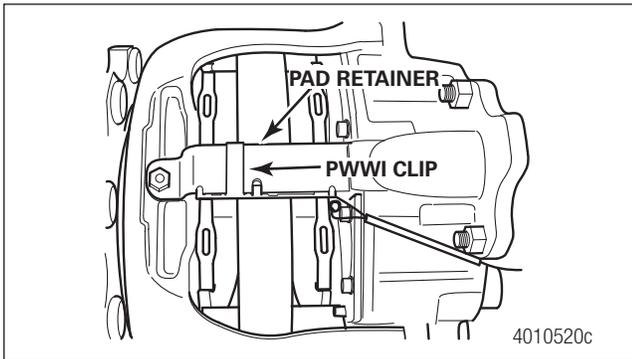

Fig. 6.20 PWWI Assembly Installed
- If a new PWWI is to be installed, position the pad wear cable correctly and carefully clip the pad wear warning cable retainer to the pad retaining plate. Figure 6.20.